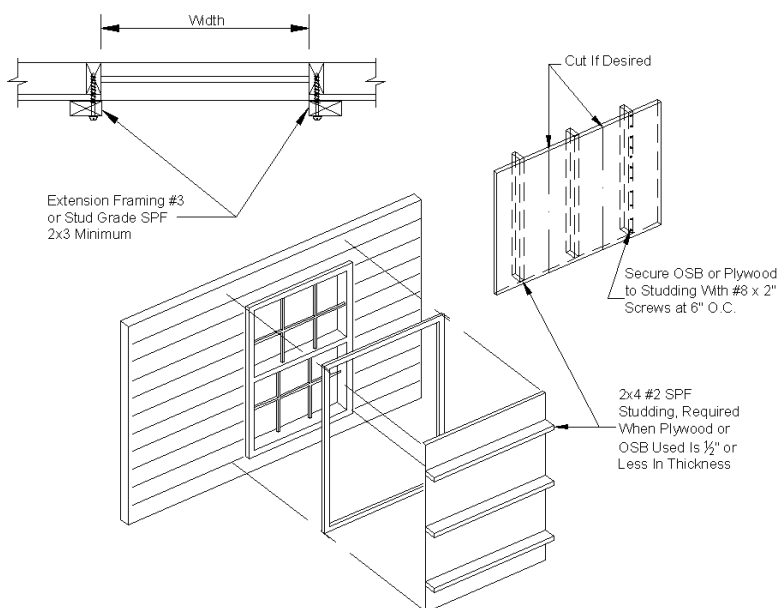

Figure 97. Wind protection shutter construction
If desired, prepare temporary protective window covers for use during severe windstorms and hurricanes according to **Figure 97**, **Table 29**, and the procedure below.
2. Assemble shutter panels as shown in **Figure 97**.